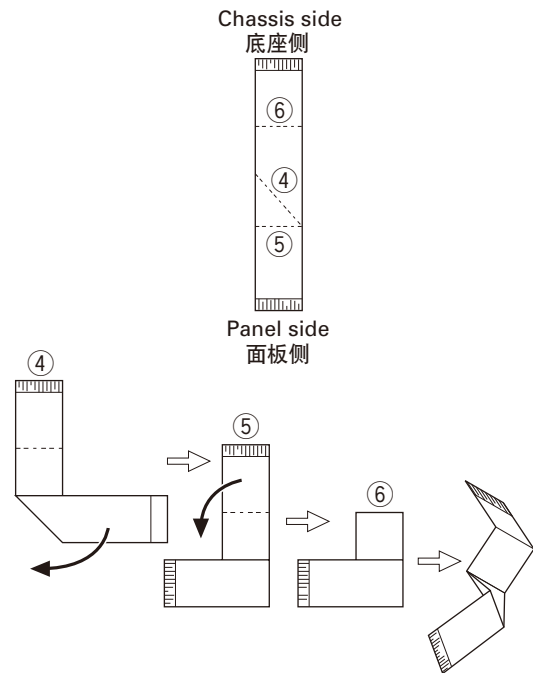

Fig. 3-2 / 图 3-2
1. Lift the two tabs of the panel on the bottom of the transceiver with a flat-head screwdriver (①) and remove the panel from the chassis (②).
2. Remove the flat cable from the connector (CN901) of the display unit of the panel. (③)
3. Fold the black line of the flat cable (in three parts) as shown in Figure 3-2. (④, ⑤, ⑥)
1. 用平头螺丝刀翘起车载对讲机底部的两个面板凸起 (①)，然后从底座取下面板 (②)。
2. 从面板显示单元的连接器 (CN901) 取下带状电缆。(③)
3. 如图 3-2 所示折叠带状电缆的黑线。(④, ⑤, ⑥)